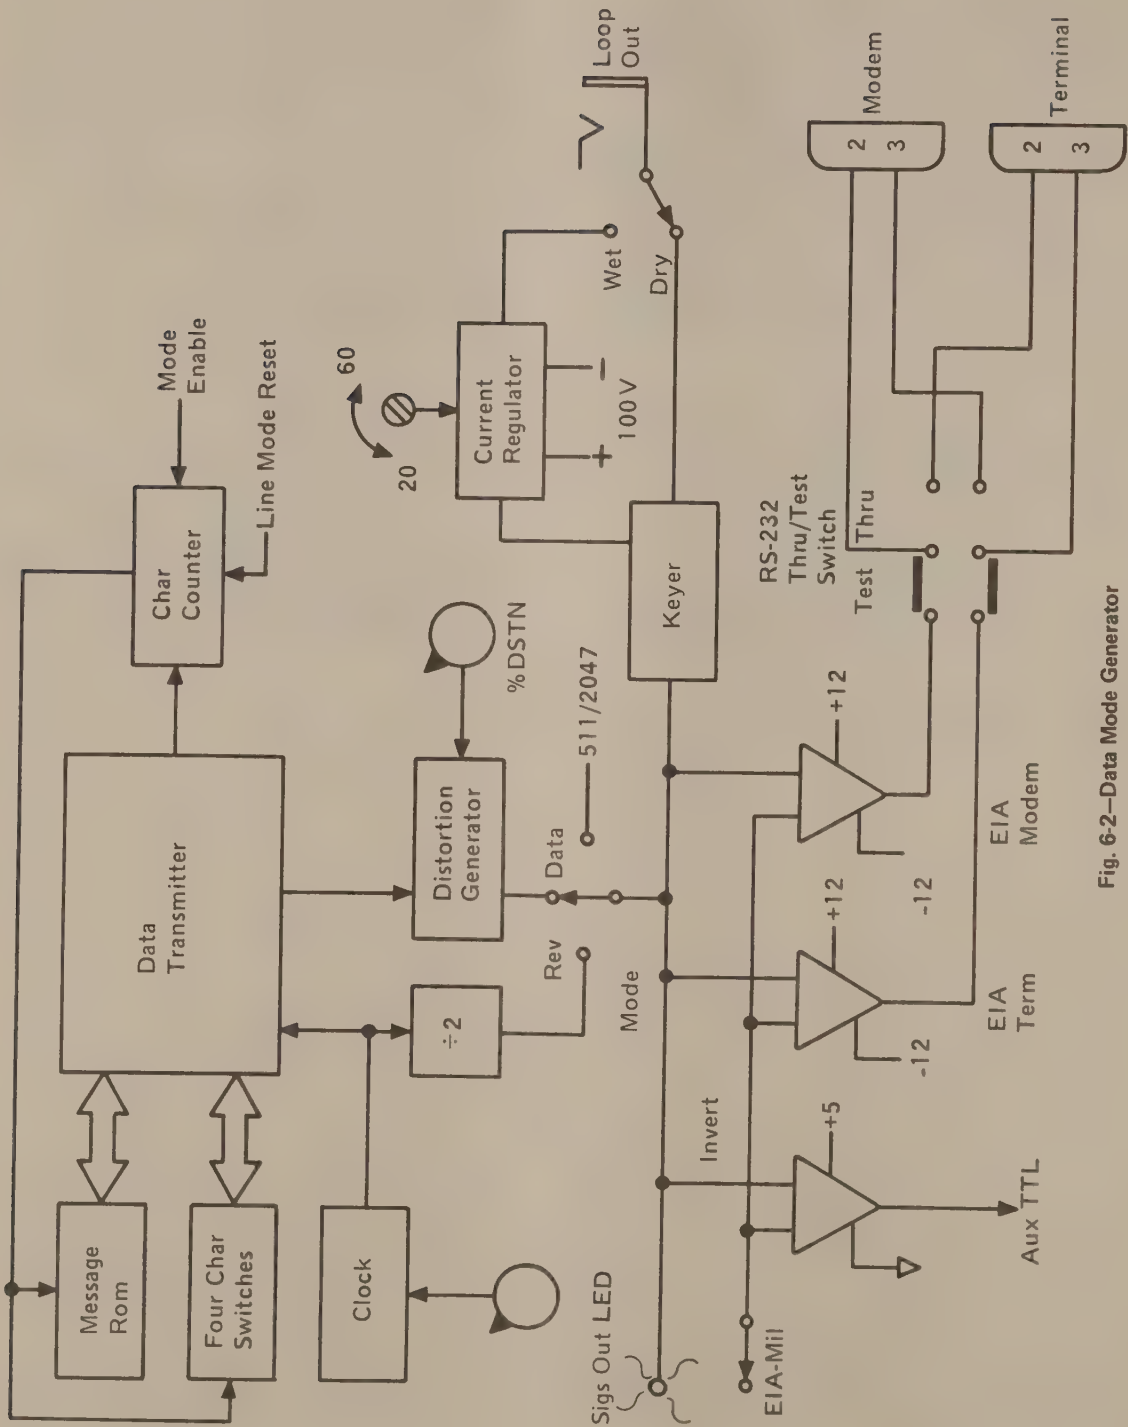

Fig. 6-2—Data Mode Generator
6.17 The data mode functions are shown in Figures 6-2 and 6-3. Messages to be transmitted are contained in a ROM (Read Only Memory) chip and the 4-character switches on the front panel. These parallel signals are serialized by the data transmitter. The serial output of the data transmitter then has distortion introduced in controlled amounts as selected by the panel Distortion Switch.
6.32 The functional representation of the RS-232 wiring in the DTS is shown in Figure 6-2. The LOOP interface requires the two circuits shown in Figure 4-1.